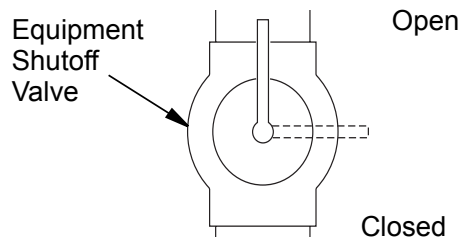

Figure 25 - Equipment Shutoff Valve
1. Close equipment shutoff valve (see **Figure 25**).
1. Open equipment shutoff valve (see *Figure 25, Page 20*).
3. Close equipment shutoff valve (see **Figure 25, Page 20**).